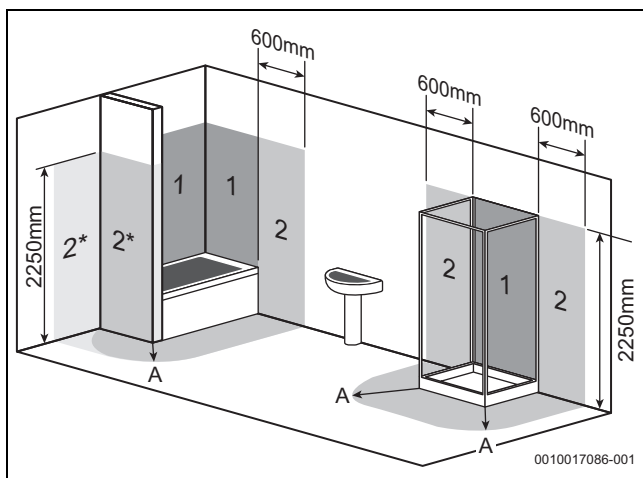

Fig. 10 Bathroom installations
- Figure 10 is for guidance only.